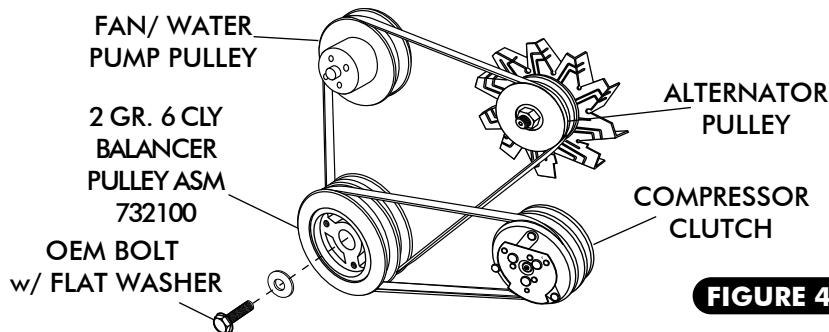

FIGURE 4
- INSTALL BELTS AS SHOWN IN FIGURE 4. ADJUST TO PROPER TENSION AND TIGHTEN ALL BOLTS.